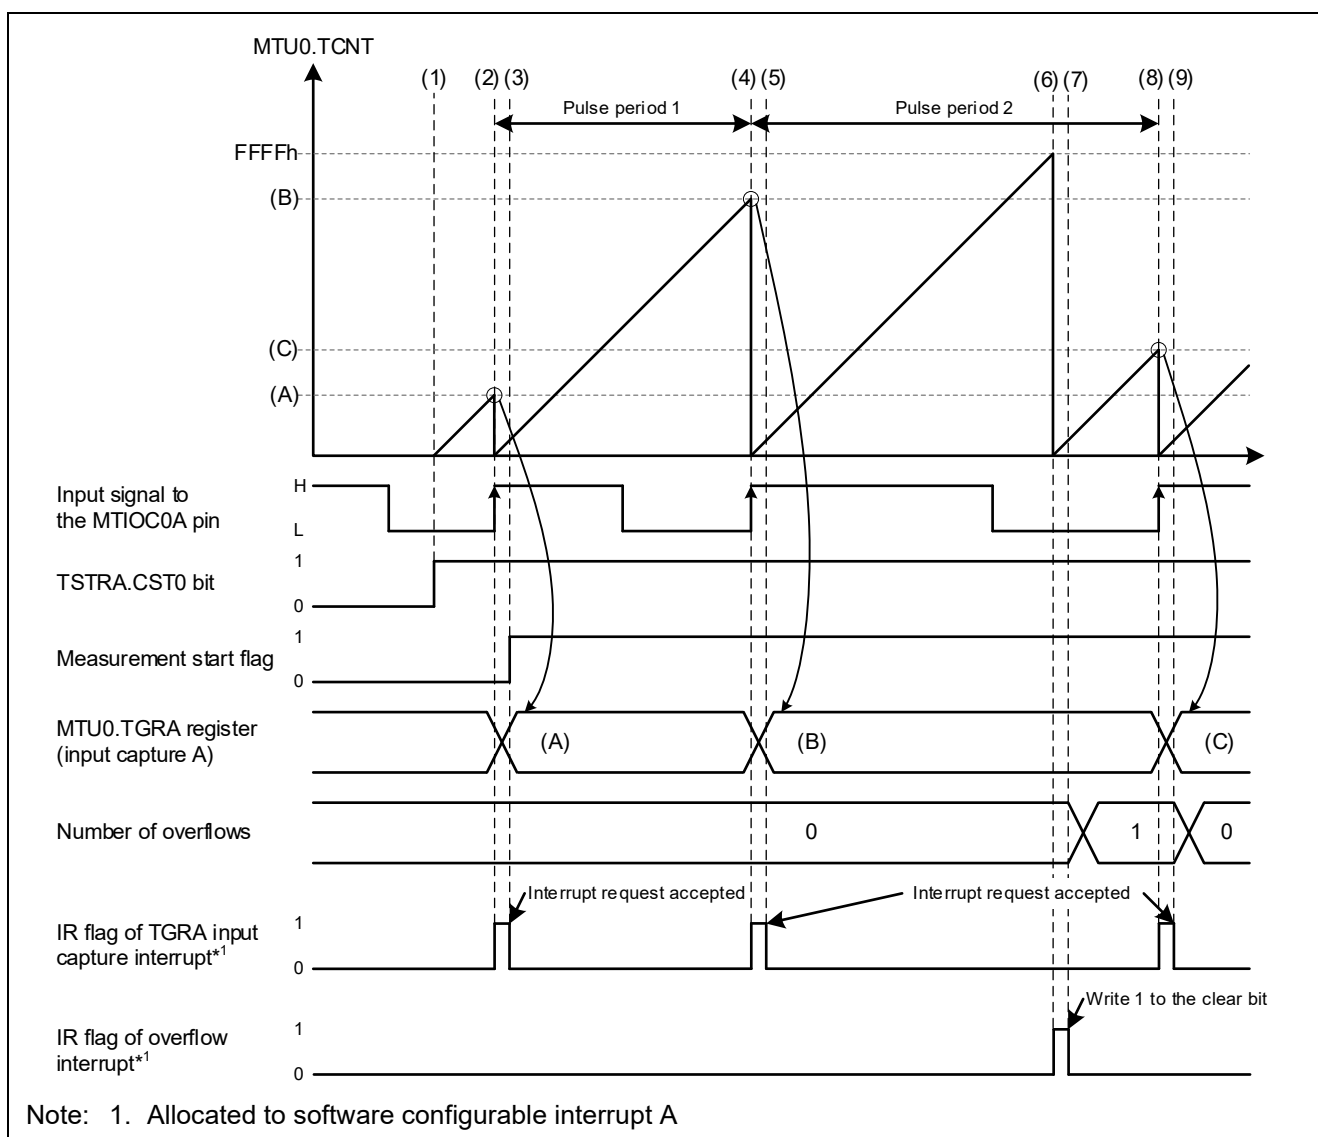

Figure 3.6 Sample Code Operations
- (3) Input capture A interrupt processing sets the measurement start flag to 1 (measurement in progress). It also clears the number of overflows.
- (4) When the level of the MTIOC0A pin changes from low to high, the same operation as (2) is performed.
- (5) The input capture A interrupt processing calculates the pulse period (pulse period 1 in Figure 3.6) based on the number of overflows in the MTU0.TCNT register (0 in (5) in Figure 3.6) and the value in the MTU0.TGRA register ((B) in Figure 3.6).
- (6) When the MTU0.TCNT register overflows, an overflow interrupt request is generated.
- (7) The overflow interrupt processing counts the number of overflows.
- (8) When the level of the MTIOC0A pin changes from low to high, the same operation as (2) is performed.
- (9) The input capture A interrupt processing calculates the pulse period (pulse period 2 in Figure 3.6) based on the number of overflows in the MTU0.TCNT register (1 in (9) in Figure 3.6) and the value in the MTU0.TGRA register ((C) in Figure 3.6).